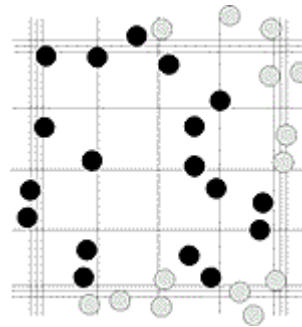

Figure 2.
- Count all cells which are completely within each box and all cells that touch the left and upper lines of the box (figure 2.) In this example (type: Neubauer improved) the outer line of the box to be counted is the middle line. The cells “painted black” (18 pc.) are correct